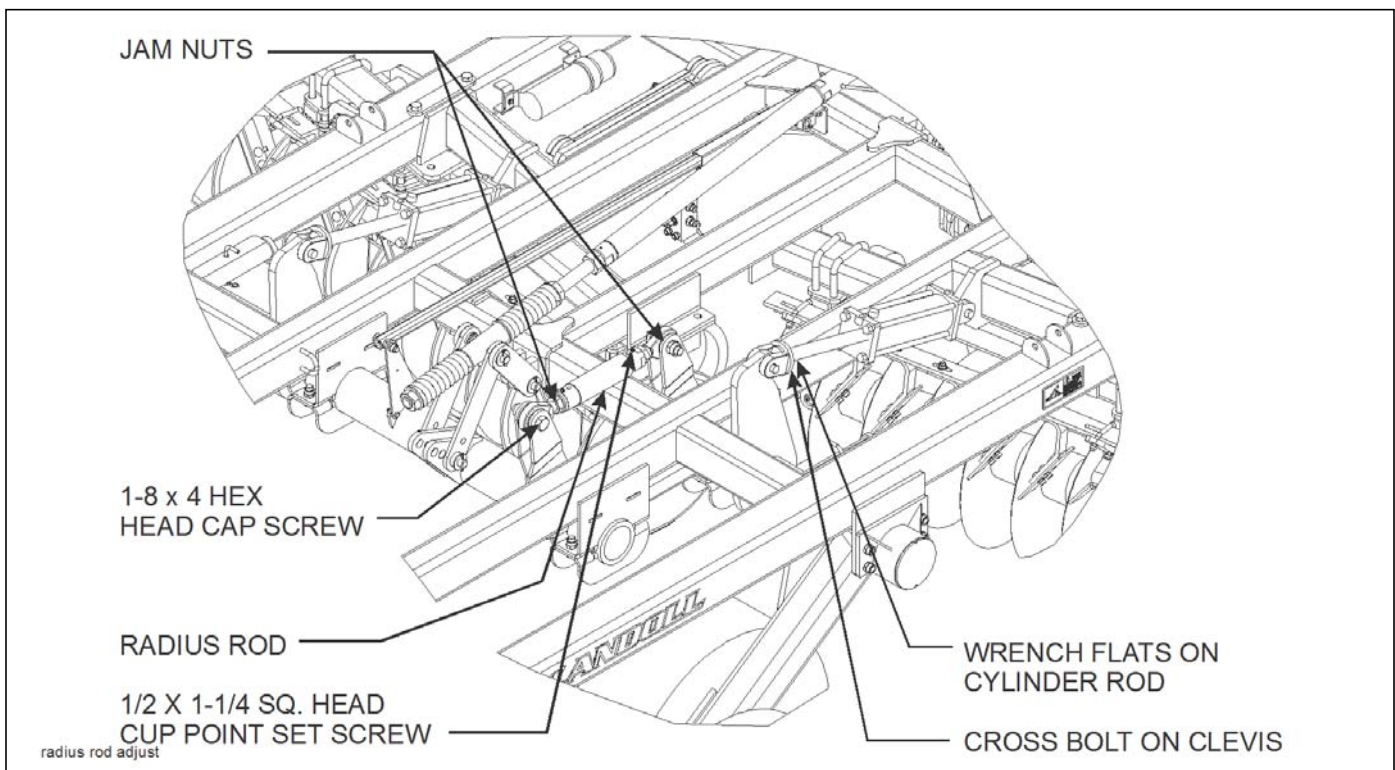

Figure 4-8: Leveling the Center Frame
- d. Measure the distance from the walking beam spindle to the top of the frame on both sides. If there is a difference, it needs to be adjusted by turning the cylinder rods with the wrench flats provided at the clevis end (**See Figure 4-8.**)